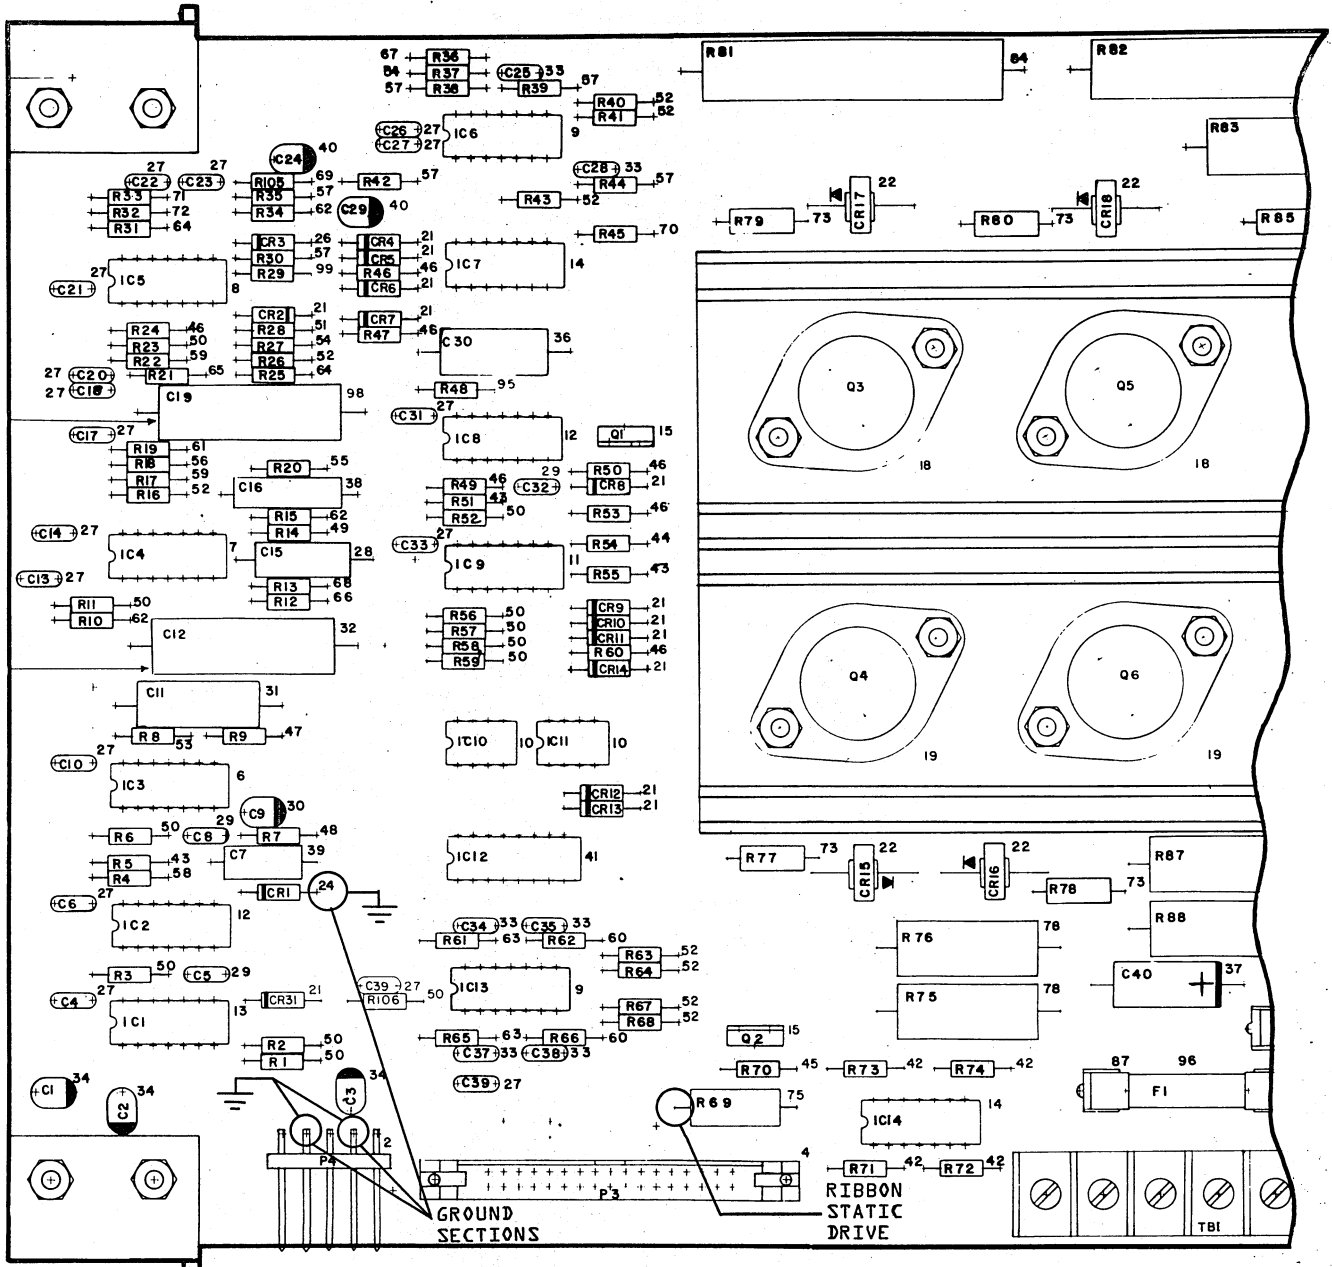

FIGURE 5-21A. STATIC RIBBON OPERATION
8. Place a straight edge horizontally across the band character surface and check that both ribbon guides are from .000 to .005 inch (.000 to .127 mm) behind the character surface. The end guide can be adjusted by loosening the two mounting screws (see Figure 5-21A).